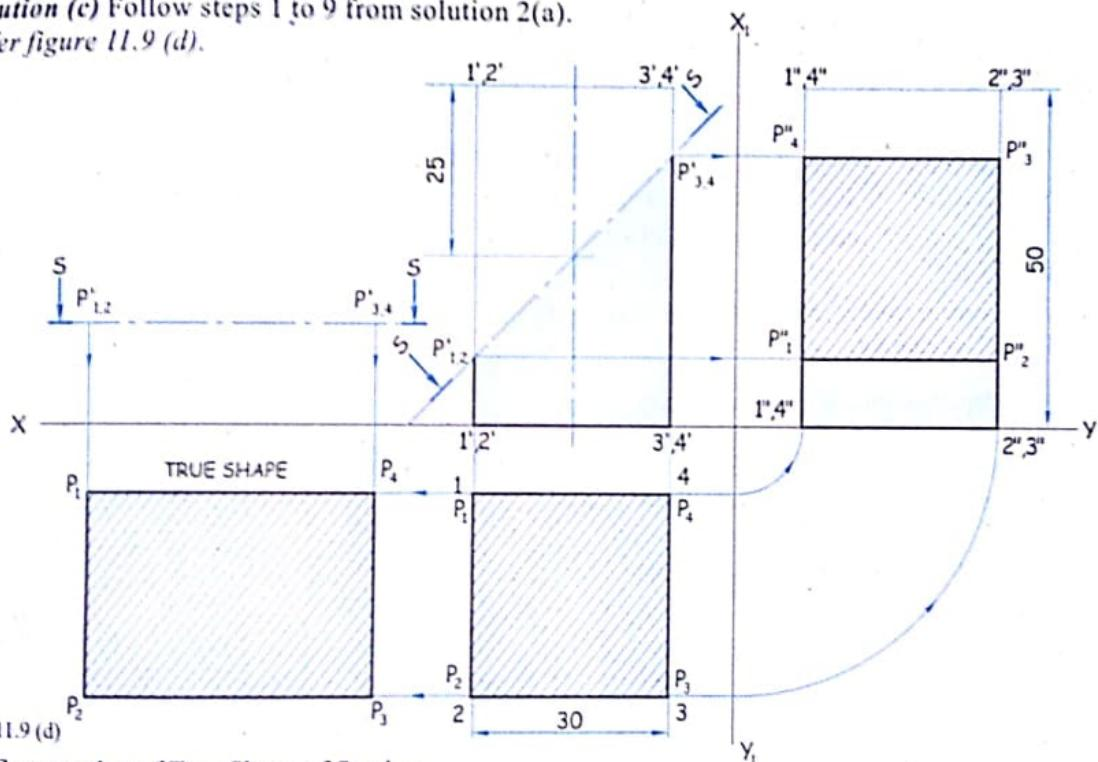

FIG 11.9 (d)
Refer figure 11.9 (d).
- Place the section plane $S-S$ with points P'_1, P'_2, P'_3, P'_4 parallel to the XY line as shown in figure 11.9 (d).